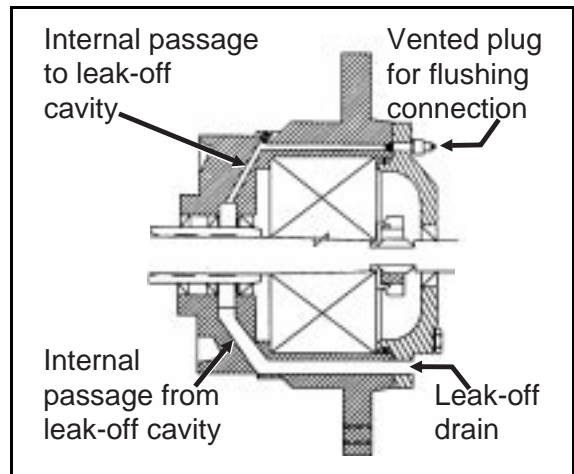

FIGURE 5 (MSSM0271AE) — Internal Flushing Passage and Leak-off
2. Pump approximately two quarts (1.9 liters) of mineral spirits into the flushing connection until the spirits flow easily out of the leak-off drains. FIGURE 5 shows the internal passage from the flushing connection, through the leak-off cavity, and the internal drain to the exterior of the housing.